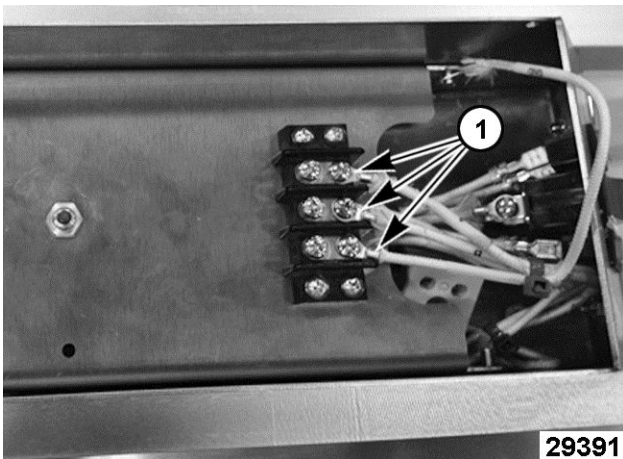

Fig. 31
3. Note heating element wire locations (1, Fig. 31) and disconnect from terminal strip.